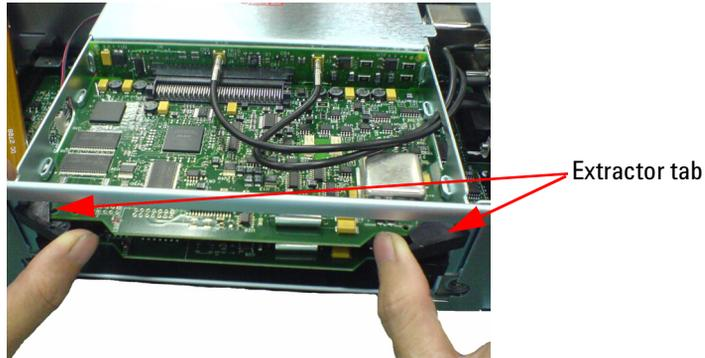

Figure 1-2 Pull the extractor tab outward
- 7 Remove the current measurement board by pulling the extractor tab outward. See Figure 1-2.